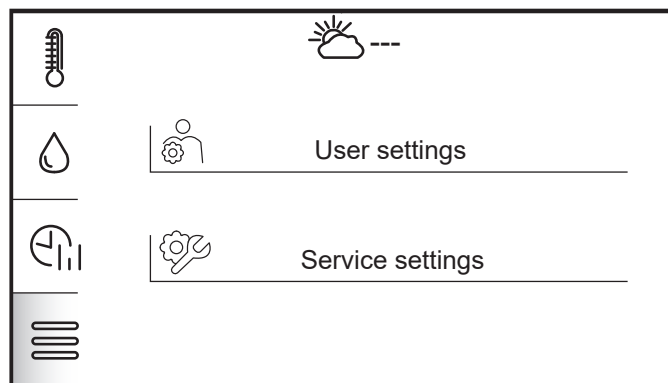

Figure H-1: Settings selection
1. When the heating circuit control interface is shown (see Figure 7-1), tap settings menu. Refer to Table 7-1 and Figure H-1.